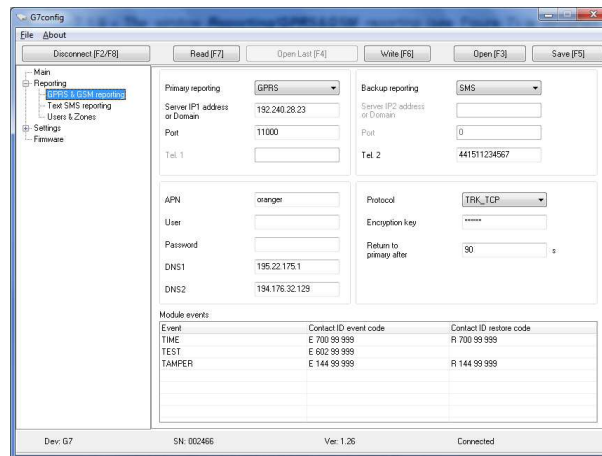

Figure 10. View of window GPRS&GSM reporting
7.1.9 The window **Reporting/GPRS&GSM reporting** (see *Figure 10*) is intended for selecting of primary and back-up data transmission; setting both network and monitoring receiver parameters.